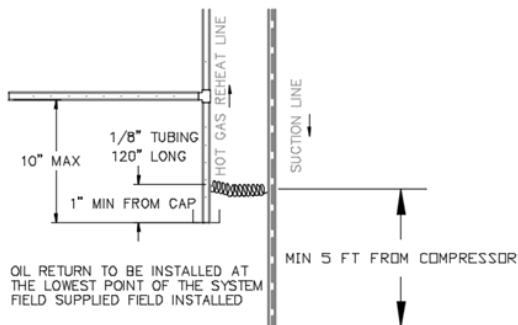

Figure 13: Oil Return Line
25.4 cm (10") long. Run an oil return line, using 3.2 mm (1/8 inch) capillary tube, 3 meters (10 feet) in length, from the hot gas reheat line oil drip line to the suction line. Connect the oil return line 1 inch above the bottom of the oil drip line. (See Oil Return Line Figure 13) The oil return line's connection point to the suction line should be at the same elevation, or below the oil drip tube connection point. Optional, but recommended: Install a sight glass in the oil drip line above the oil return line connection for observation.